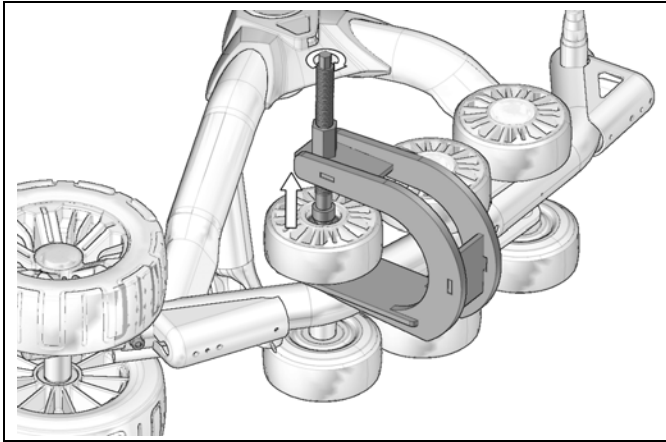

Figure 38
- Place extractor under wheel as shown on Figure 38. Then turn the threaded rod to remove the wheel.